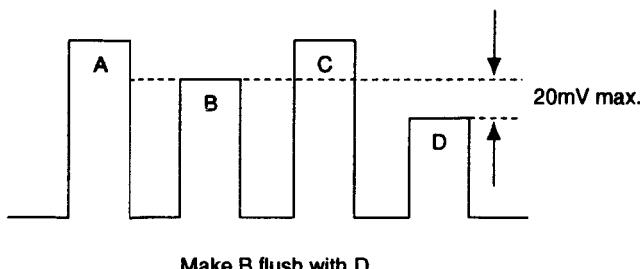

Fig. 5-12
3. Connect the probe of an oscilloscope to IC404 ⑩ PIN or TP402.
5. Adjust [SUB CHROMA NORMAL] so that the peaks of waveforms will be flush with each other as shown in Fig.5-12.
2. Input adjustment value 98 to [SUB CHROMA NORMAL]. (Fig.5-12)